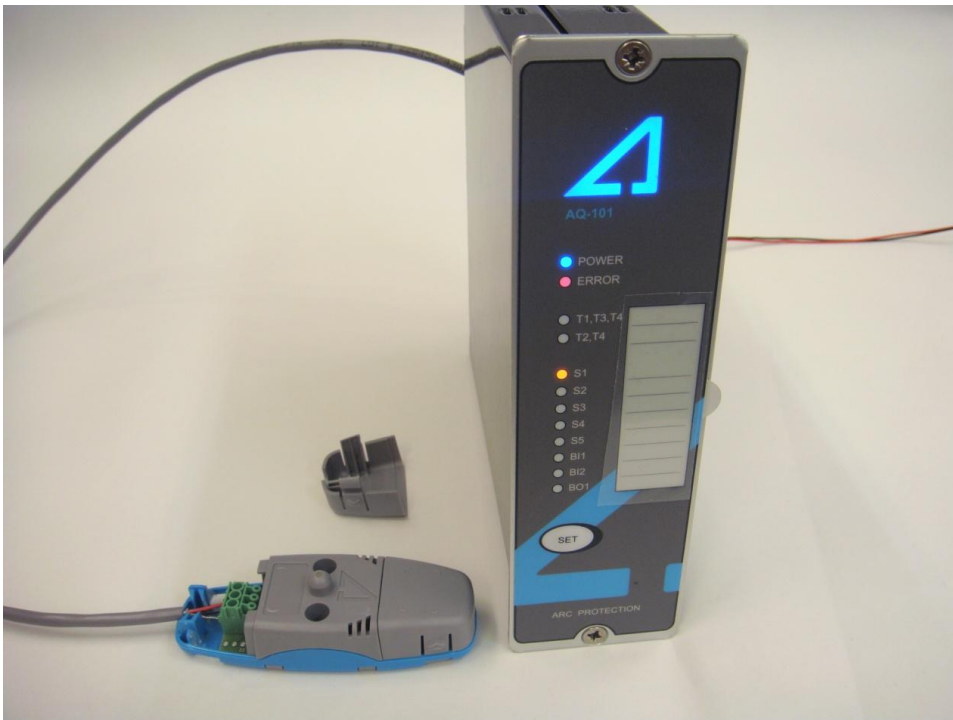

Figure 4.11
6) After connecting the sensor to unit, the ERROR LED turns on, and the appropriate sensor channel LED starts to blink (e.g.S1 LED).(See Figure 4.11)